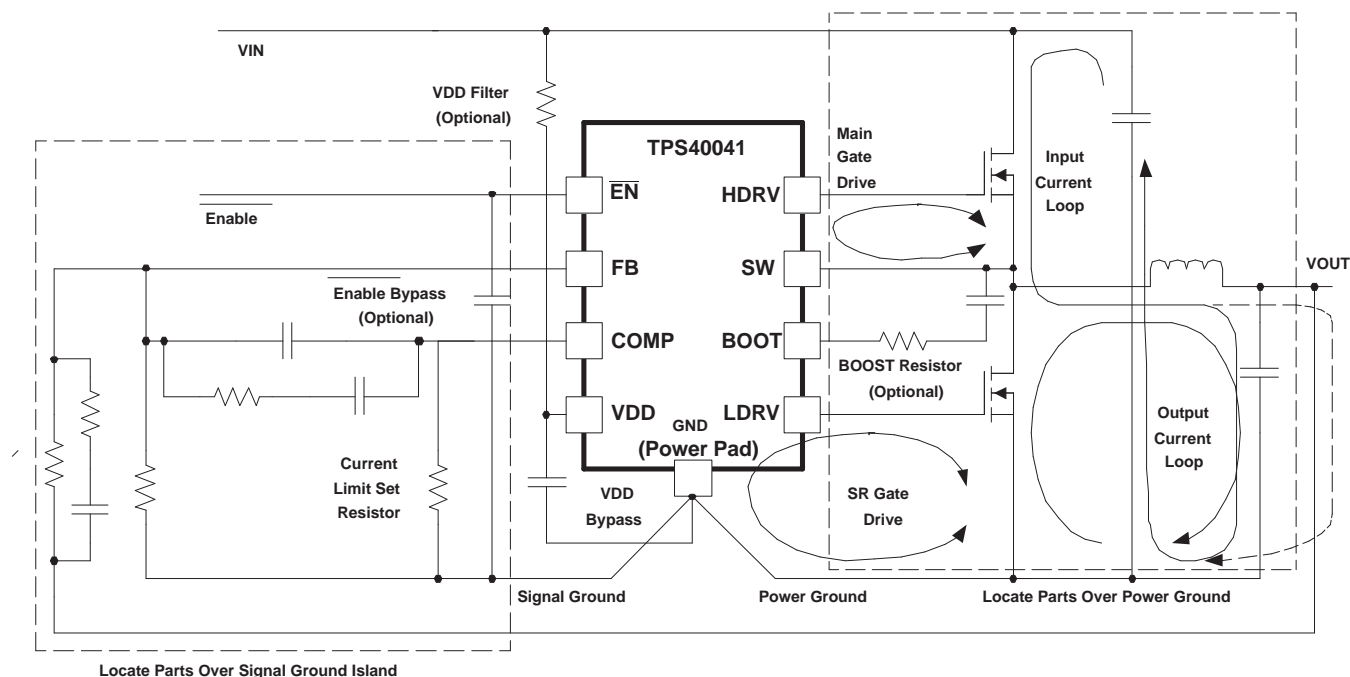

Figure 22. Synchronous BUCK Power Stage
As shown in Figure 22, the input current loop contains the input capacitors, the switching MOSFET, the inductor, the output capacitors, and the ground path back to the input capacitors. To keep this loop as small as possible, it is good practice to place some ceramic capacitance directly between the drain of the main switching MOSFET and the source of the synchronous rectifier (SR) through a power ground plane directly under the MOSFETs.